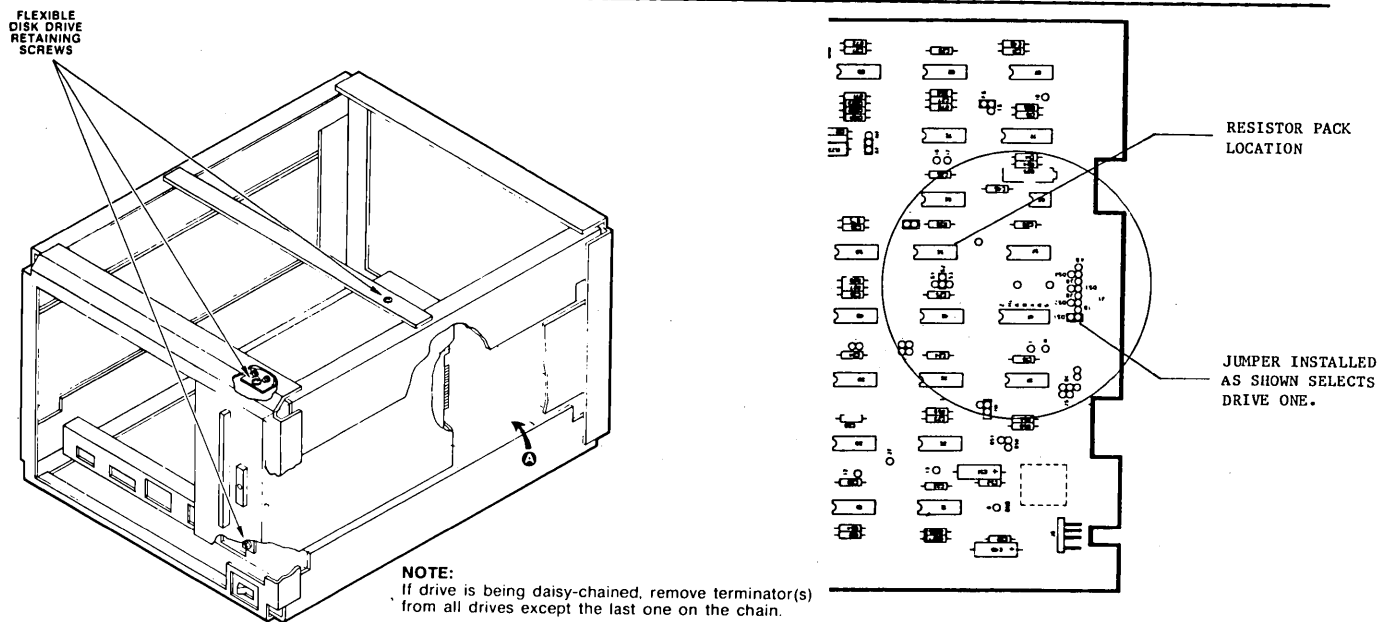

Figure B-1. Drive Select and Terminator Location
7. Slide drive forward until the terminator and drive select jumpers are accessible. Refer to Figure B-1.